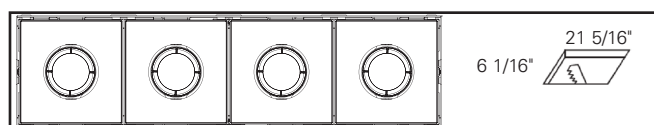

Figura 1.12.
- Cuatro luces: 21 5/16 in X 6 1/16 in (Figura 1.12)